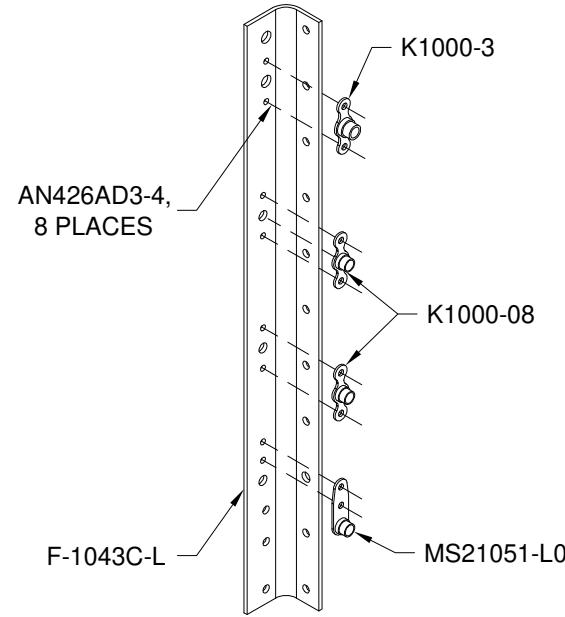

FIGURE 3: ATTACH ANGLE NUTPLATE INSTALLATION
Step 3: Final-Drill #40 the remaining nutplate attach holes in the F-1043C-L & R Attach Angles. Final-Drill #19 the K1000-08 and MS21051-L08 nutplate screw holes in the attach angles. Final-Drill #12 the K1000-3 nutplate bolt hole in the attach angles. See Figure 3.
Machine countersink the nutplate attach holes in the attach angles for the head of an AN426AD3 rivet. See Figure 3.